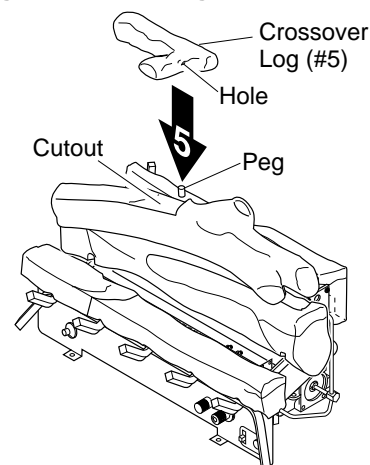

Figure 21 - Installing Crossover Log (#5)
5. Place the crossover log (#5) on the back log and the top middle log. Make sure the peg on the rear log is in the hole in the bottom of the crossover log. The crossover log should fit in the cutout of the top middle log (see Figure 21).